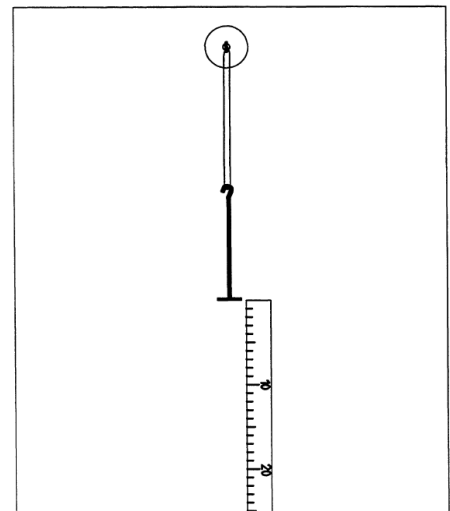

Figure 1
- Place the scale on the board so that the lower edge of the weight plate is level with the zero mark of the scale (Fig. 1).